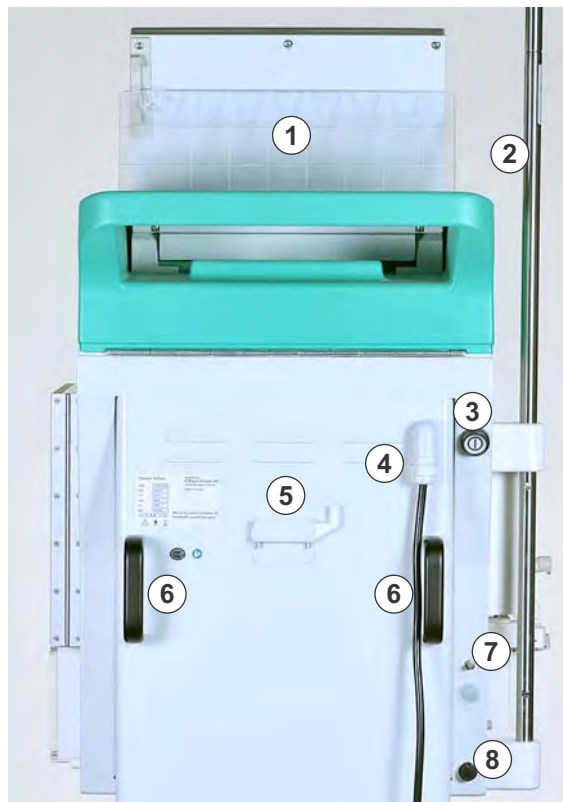

Fig. 2-7 Rear view
The On/Off switch is located at the top right of the machine's rear side (see Fig. 2-7 Rear view (29)). It acts as a power switch that connects and disconnects the machine from the mains supply.